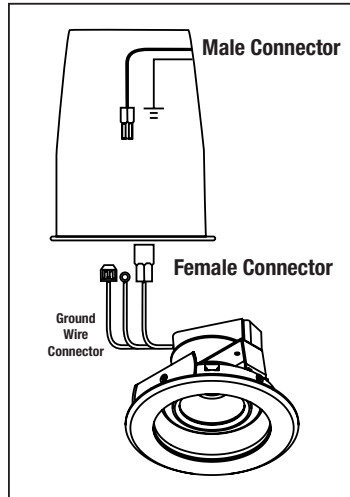

FIGURE 4
1. Connect orange female to male connector and ground wire of the fixture to housing (Fig.4). Connector is not intended to support weight of the fixture. Please support fixture at all times.